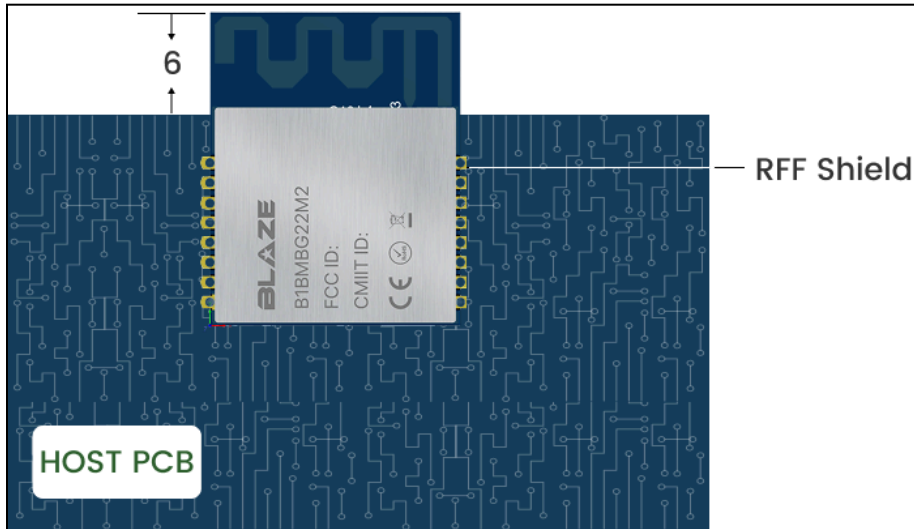

Figure 10.1. BLE Module placements with Antenna position Overhang
- ☐ If the antenna cannot be mounted in an overhanging position, then provisions must be made to keep the area clear of copper as recommended in Figure 10.1.